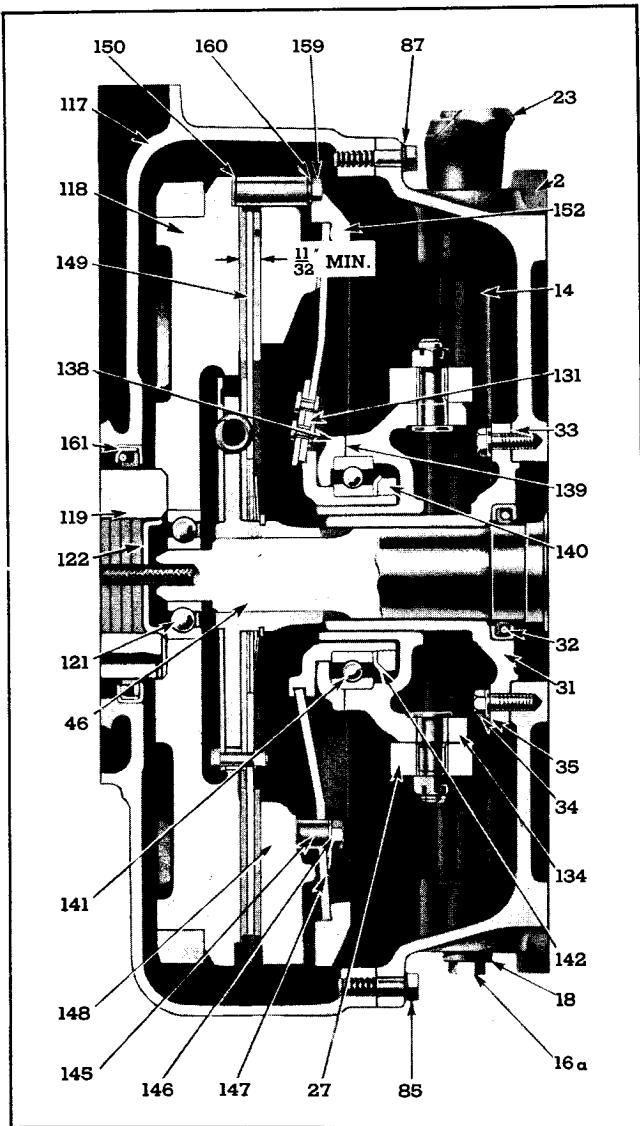

Fig. 5—Clutch Assembly.
Description—The clutch used on multiple engine units is illustrated in Fig. 5. It consists of a driven disc assembly (149), a pressure plate (148), a clutch spring and hub assembly (131), a ball bearing-mounted clutch release bearing sleeve assembly (134), and a clutch cover plate (152).
Clutch Adjustment—There is no adjustment, as such, of the clutches used in twin and quad industrial units and illustrated in Fig. 5. However, when the facings
on the clutch disc have worn so that the over-all thickness of the disc and facings is less than $1\frac{1}{32}$ ", as illustrated in Fig. 5, the disc assembly should be changed.